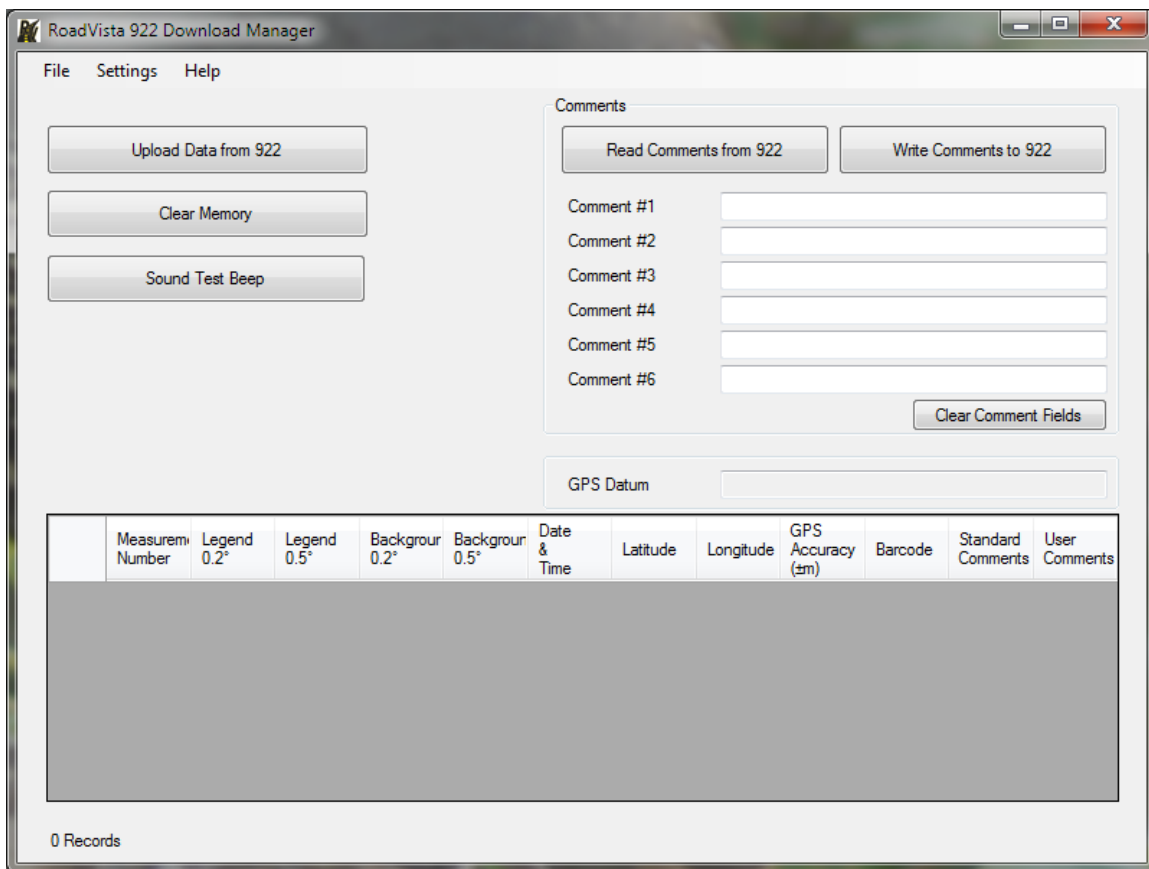

Figure 3-13 Windows Interface Main Page
- c. Once the correct communication port is found, click “Done.” Click on the “Beep” button (refer to Figure 3.13) in the software to verify the